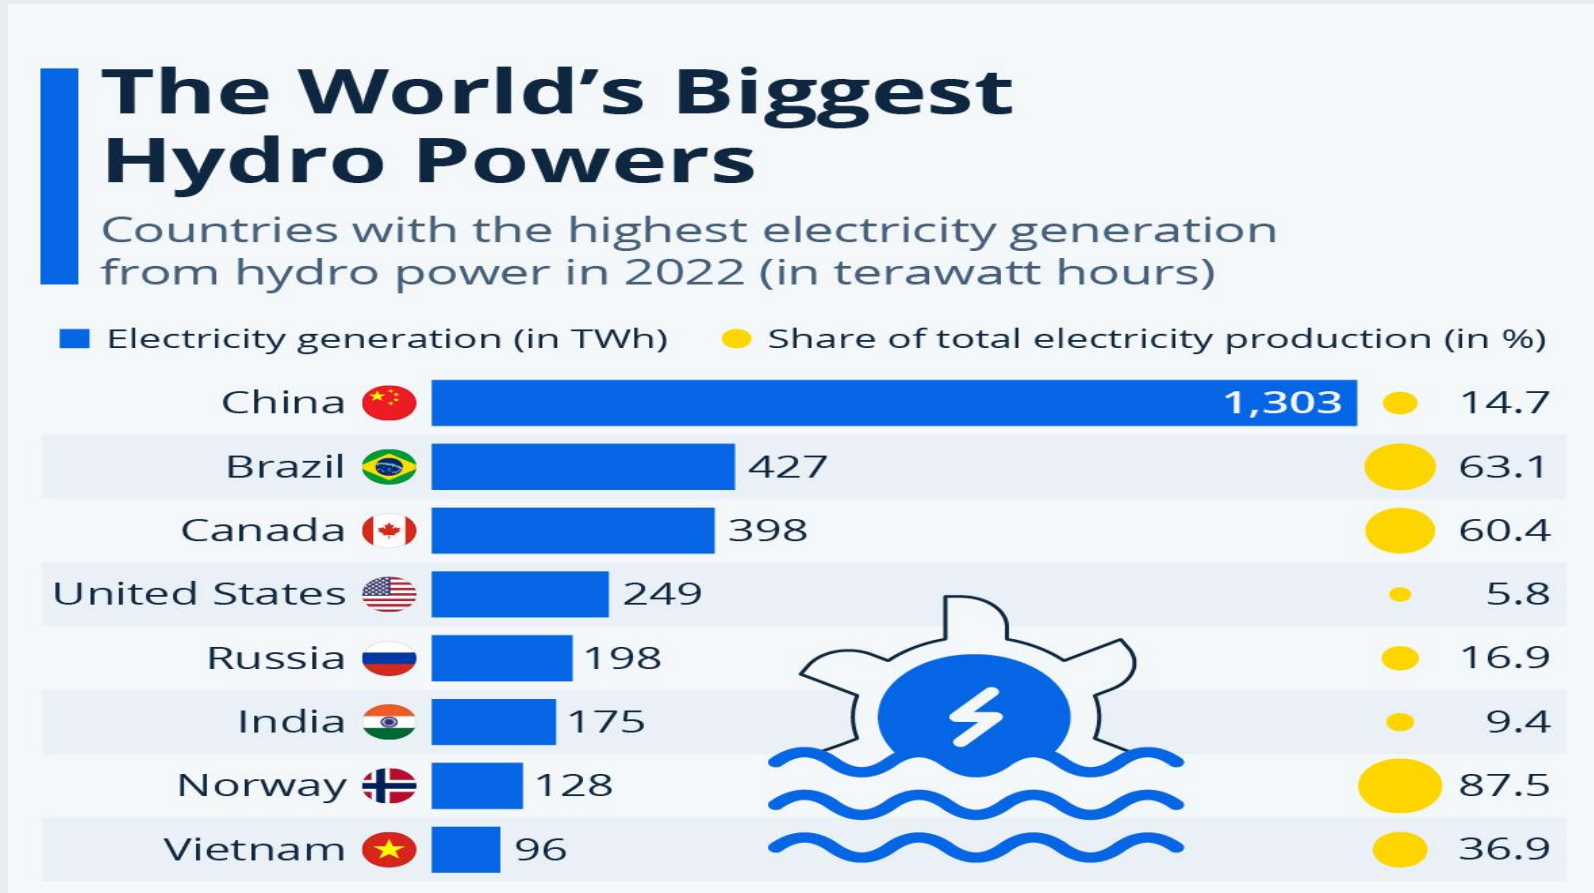

Figure 2. Countries with the largest hydropower generation. <https://cdn.s tatcdn.com/Infographic/images/normal/32027.jpeg>
- China, Brazil, United States, Canada and Norway generate large quantities of electric power from **very large** hydroelectric facilities, which is presented in Fig.2[1].